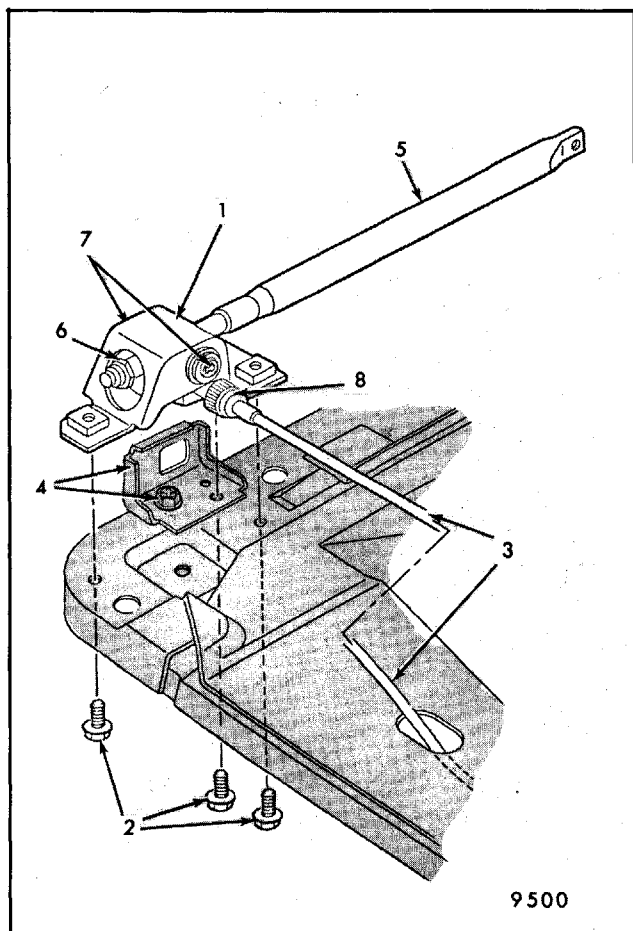

Fig. 9-45 - "B and C" Body Power Operated Reclining Seat Back Actuator - "B and C" Body Full Width Seats
1. With reclining actuator removed, remove actuator jackscrew nut (Fig. 9-45).
3. Using a clutch head type screwdriver, remove actuator gearnut attaching screws (Fig. 9-45) and remove actuator assembly.